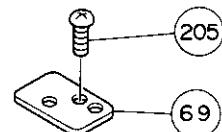
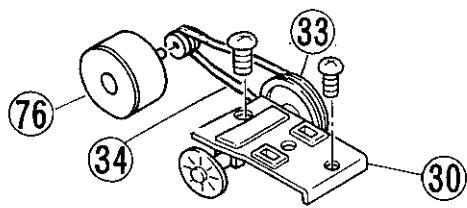

Figure 6
Figure 7
1. After removing the cabinet top, remove Position PWB Assy (69) referring to Fig. 6.
2. Remove the Belt (34) between Servo-controlled Motor (76) and Pulley (33).
3. Remove the Bearing Assy (30) referring to Fig. 7.